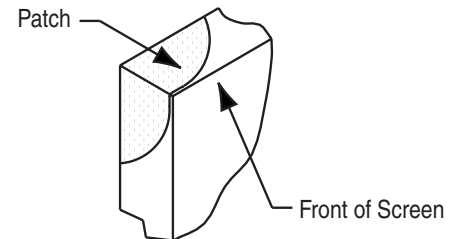

Figure 4
- ④ Remove frame from wall by pushing upward until the bottom frame section hits the lower wall brackets. The top frame section should clear the studs of the upper brackets; pivot the top of the frame away from the wall until frame drops down in front of these brackets. The bottom of the frame will then be disengaged from the lower wall brackets. Set frame aside.
- ⑤ Make sure your hands are clean before touching the viewing surface.
- ⑥ Remove the viewing surface from the cardboard tube. Unroll the surface from the small cardboard tube. **NOTE:** Be extremely careful to protect the viewing surface by making sure it is unrolled onto a clean cloth or paper.
- ⑦ Place the frame with snaps facing up onto the viewing surface, centering it as much as possible. Be sure to match the top of the frame with the top of the viewing surface. Starting away from the corners, wrap surface around the frame and snap onto the back of the frame working toward the corners (see diagram on page 2). Viewing surface should completely cover the front of the frame. The side of the castings at each corner may be slightly visible due to viewing surface elasticity. It may be necessary to unsnap a portion of the surface to get the proper coverage at the corners. Pull the surface in the desired direction and snap it on the frame. After the surface has been adjusted (if necessary) and completely snapped onto the frame, peel off the liner on the corner patch and place it on the screen fabric at each corner to conceal any gap (see Fig. 4). These patches may not be necessary if outside edges of screen are not visible after installation.